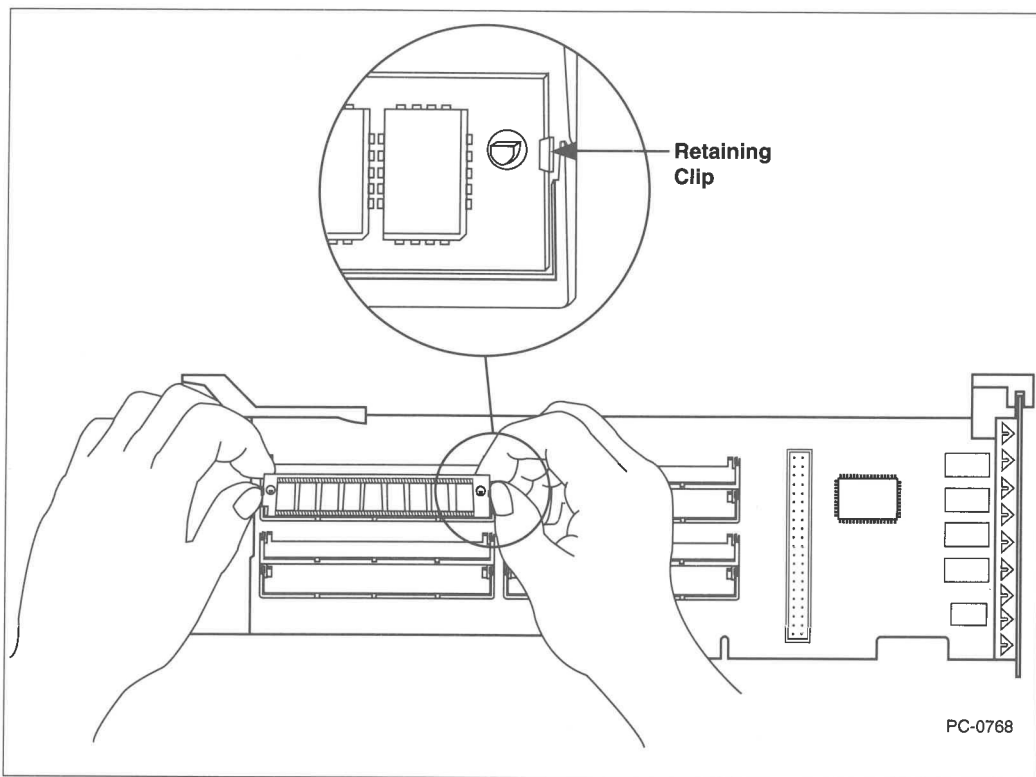

Figure A-4 *Removing a SIMM*
If it isn't, press out on the retaining clips located at the end of the socket (shown in Figure A-4). This will release the SIMM and cause it to move forward, enabling you to remove it from the socket. Once you have removed the SIMM, repeat steps 3 and 4 to reinsert it.
- 2 Orient the board as shown in Figure A-4.**
Grasp the edges of the SIMM to be removed (as shown in Figure A-4) and press out on the retaining clips located at the end of the socket. This releases the SIMM and causes it to move forward, enabling you to remove it from the socket.